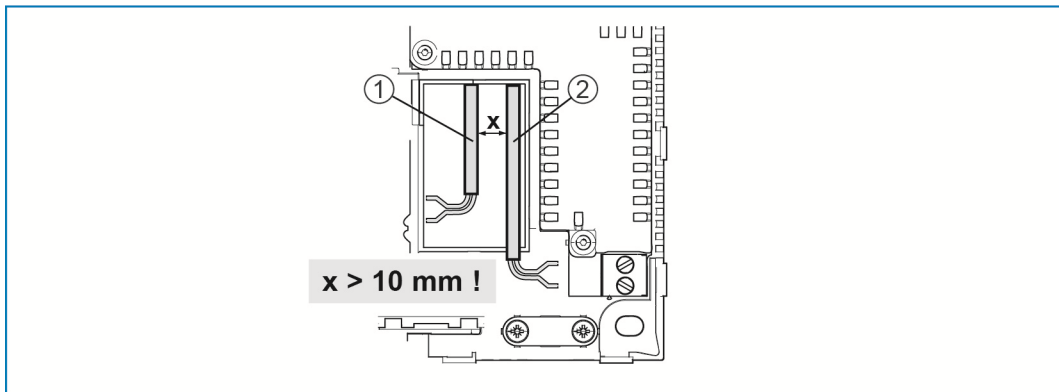

Fig. 4: SELV power circuits
- » Observe the spatial division ( $> 10\text{ mm}$ ) of SELV electric circuits to other electric circuits during mounting (see Fig. 4).